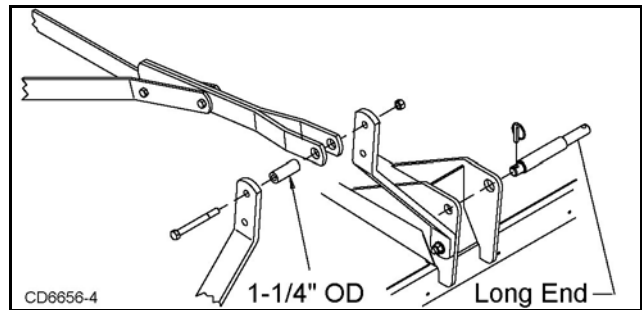

Figure 6. DS120 Category 3 Quick Hitch Connection
1. Position the hitch pins as shown in Figure 6.